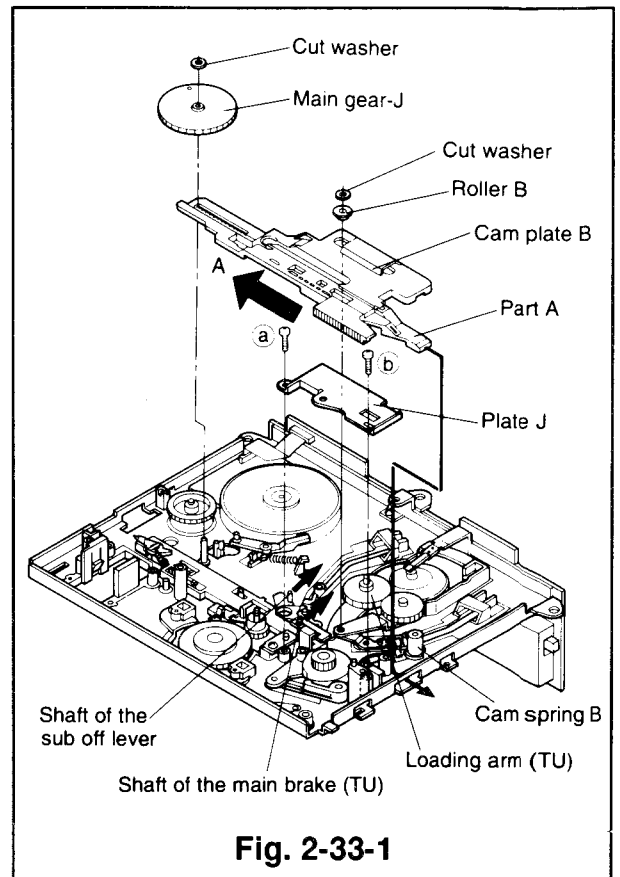
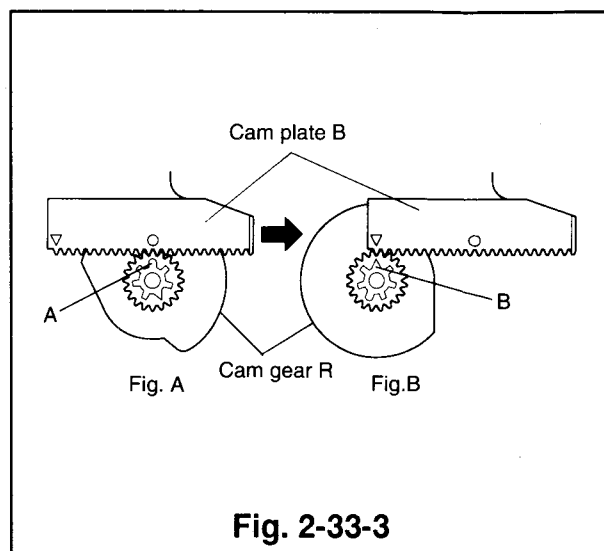

Fig. 2-33-1
Fig. 2-33-3
- ① Remove the two screws (a) and (b) to remove the plate J. (Fig. 2-33-1)
- ② Take off the cut washer fixed to the shaft of the loading arm (TU) to remove the roller B.
- ③ Remove the reel belt. (Refer to Para. 2-28 for the removal method.)
- ④ Remove the belt pulley. (Refer to Para. 2-28 for the removal method.)
- ⑤ Remove the loading motor assembly (which holds the motor holder). (Refer to Para. 2-29 for the removal method.)
- ⑥ Remove the main gear J. (Refer to Para. 2-30 for the removal method.)
- ⑦ Slide the cam plate B to the left (the direction shown by the arrow) to remove it.
- ③ Passing part A of the cam plate B under cam spring B insert it into the hole on the side of the main plate, as shown by the continuous line. (Refer to Fig. 2-33-1)
- ④ While keeping the rear section of cam plate B raised, align the cam plate B and the cam gear R so that the ○ mark on the cam plate B aligns with the part A on the cam gear R as shown in Fig.2-33-3 (Fig. A). Still keeping the rear of cam plate B raised, slide it to the right until the △ mark on cam plate B and aligns with the part B on the cam gear R, refer Fig. 2-33-3 (Fig. B). From this position lower the rear of the cam plate B unto the already aligned loading gears TU and SP, refer 2 above. Shift the sub off lever and the main brake TU in the directions shown by the arrows to install them. (Refer to Fig. 2-33-1)
- ⑤ Fix the roller B to the shaft of the loading arm (TU) and secure it with the new cut washer.
- ⑥ Install the plate J and secure it with the two screws (a) and (b).
- ⑦ Install the main gear J. (Refer to Para. 2-30 for the installation method.)
- ⑧ Install the loading motor assembly (which holds the motor holder). (Refer to Para. 2-29 for the installation method.)
- ⑨ Install the belt pulley. (Refer to Para. 2-28 for the installation method.)
- ⑩ Fasten the reel belt. (Refer to Para. 2-28 for the installation method.)